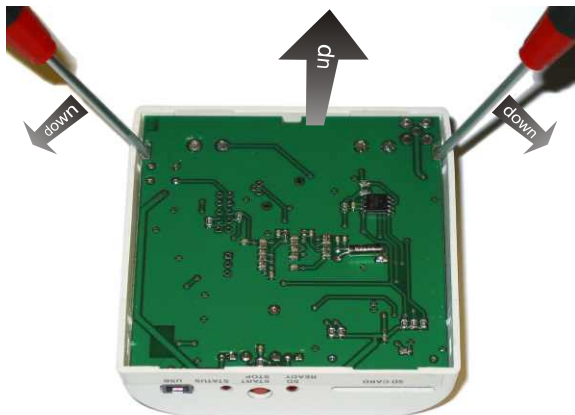

Fig.2. Removing circuit board
- carefully remove the circuit board (Fig. 2)